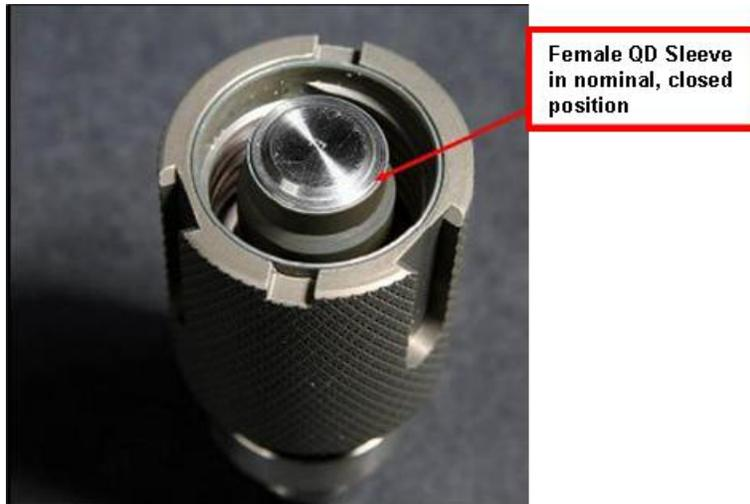

Figure 3. Large Female QD (Parker) with sleeve in nominal position
- 5.6 Inspect the female large QD of the Glacier Water Supply Line and Glacier Water Return Line for foreign material and verify that the internal sleeve is in the nominal, closed position (See Figure 3).